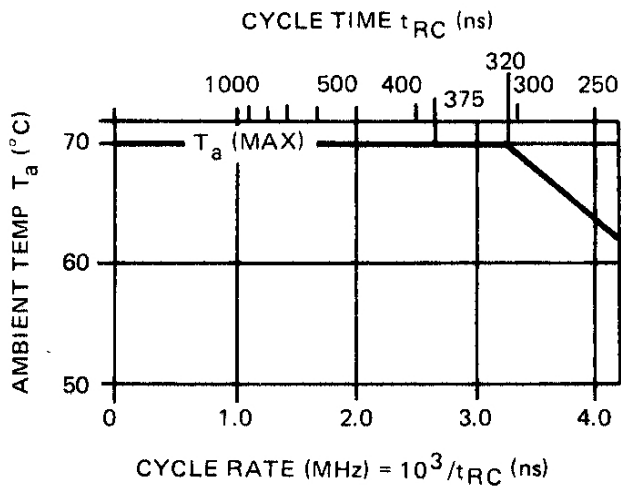
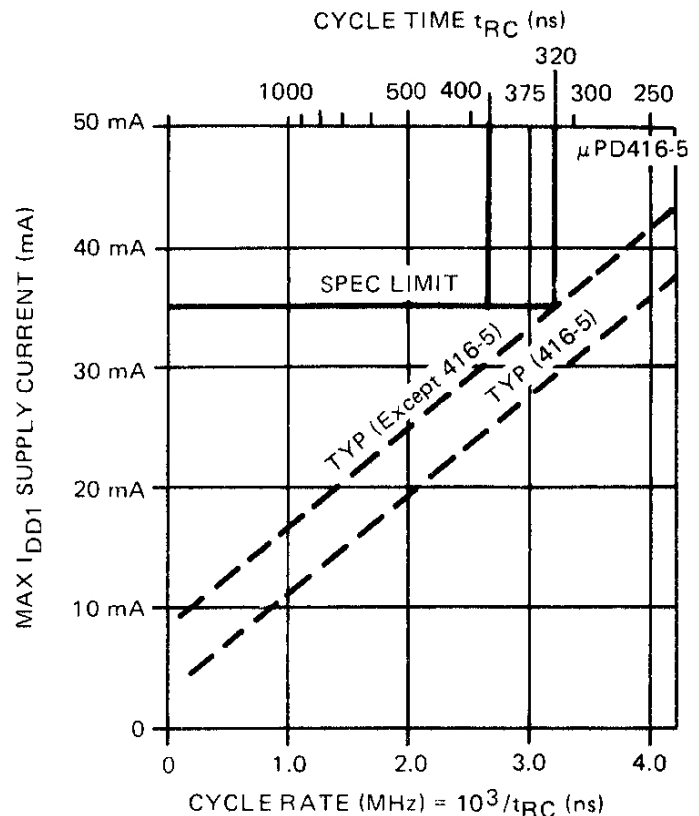

FIGURE 1
FIGURE 2
Notes: (1) T_a is specified here for operation at frequencies to $t_{RC} \geq t_{RC} \text{ (min)}$. Operation at higher cycle rates with reduced ambient temperatures and high power dissipation is permissible, however, provided AC operating parameters are met. See Figure 1 for derating curve.
(2) All voltages referenced to V_{SS} .
(3) Output voltage will swing from V_{SS} to V_{CC} when activated with no current loading. For purposes of maintaining data in standby mode, V_{CC} may be reduced to V_{SS} without affecting refresh operations or data retention. However, the $V_{OH} \text{ (min)}$ specification is not guaranteed in this mode.
(4) I_{DD1} , I_{DD3} , and I_{DD4} depend on cycle rate. See Figures 2, 3 and 4 for I_{DD} limits at other cycle rates.
(5) I_{CC1} and I_{CC4} depend upon output loading. During readout of high level data V_{CC} is connected through a low impedance (135Ω typ) to data out. At all other times I_{CC} consists of leakage currents only.